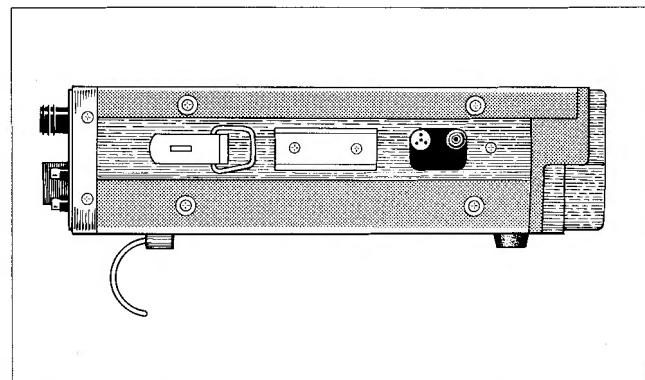

Fig. 6 Use of Stand-off Bracket
2. An alternative way of obtaining power is to plug the cigar lighter arranged in most vehicles. Such a plug, shown in Fig. 6, is available at auto accessory shops or electronics parts stores.
If you operate the TR-7400A as a fixed station, attach the supplied Stand-off bracket 25 to it as illustrated in Fig. 6. The TR-7400A is designed so as to be used with a DC power supply having a current capacity of around 10A at the rated operating voltage of 13.8V.